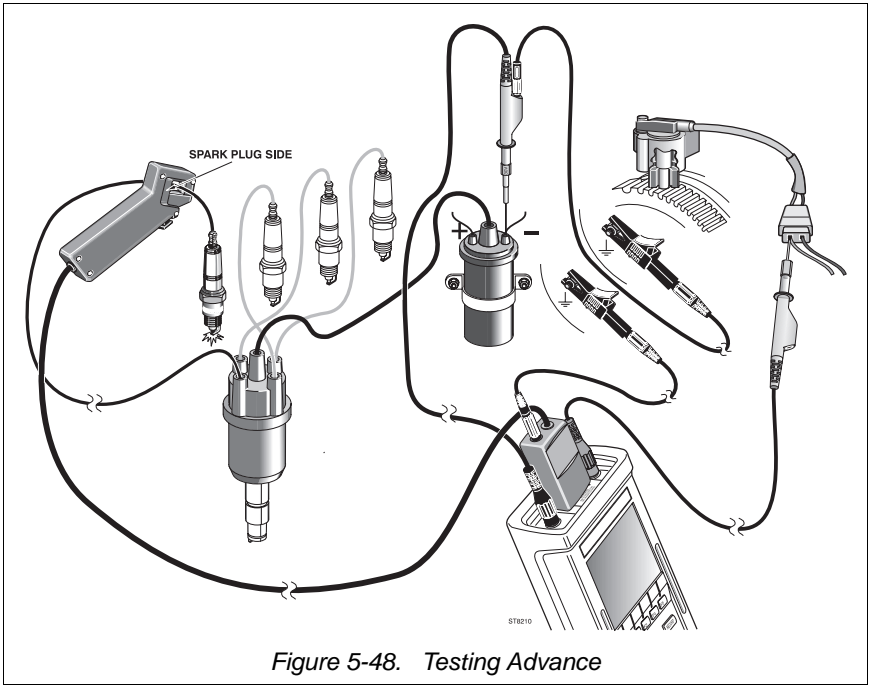

Figure 5-48. Testing Advance
- Connect the test tool to cylinder number one and to the Top Dead Center signal (TDC). Do not connect ground to the test lead on INPUT B (see Figure 5-48).
①
②
③
④ Connect the test leads as displayed by the test tool's Connection Help and shown in Figure 5-48. The Inductive Pickup must be clamped on the spark plug wire **close** to the spark plug.
⑤  Starts the timing advance test.